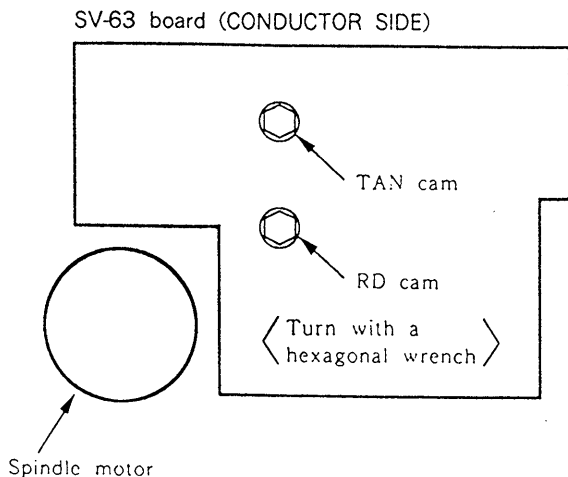

Fig. 7-9.
- 1) Turn the TAN cam on the bottom (See Fig. 7-9.) with a hexagonal wrench.